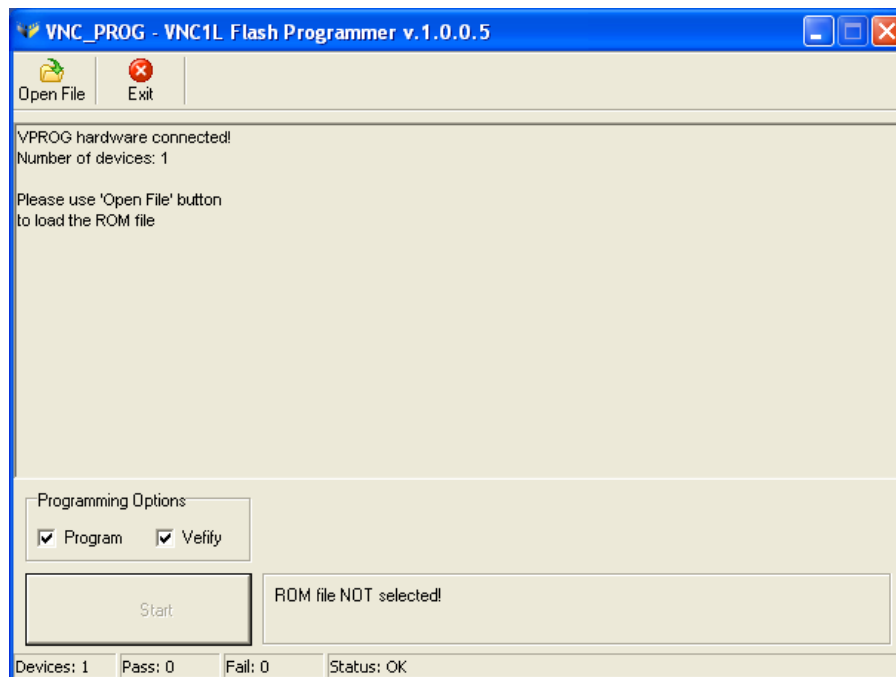

Figure 3.4 VPROG-1 Initial User Interface
1. Start the VNC\_PROG by running the "VNC\_PROG.exe" (if not already running). The GUI appears as shown in Figure 3.4: